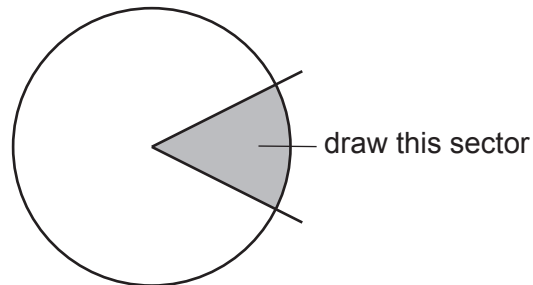

Fig. 2.1
- (a) Select a field of view so that you can observe the different tissues in the sector shown by the shaded area in Fig. 2.1.
- (i) Draw a large plan diagram of the sector of the stem on **J1** shown by the shaded area in Fig. 2.1.